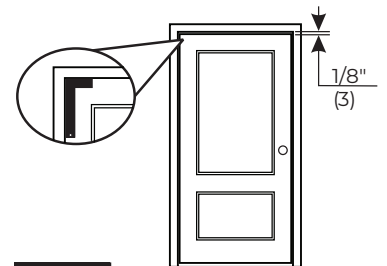

Figure 10
5. Verify frame is square by using a framing square. Gaps between door and frame should be consistent. Gap should be 1/8" (3mm) at jamb and header. (Figure 10)